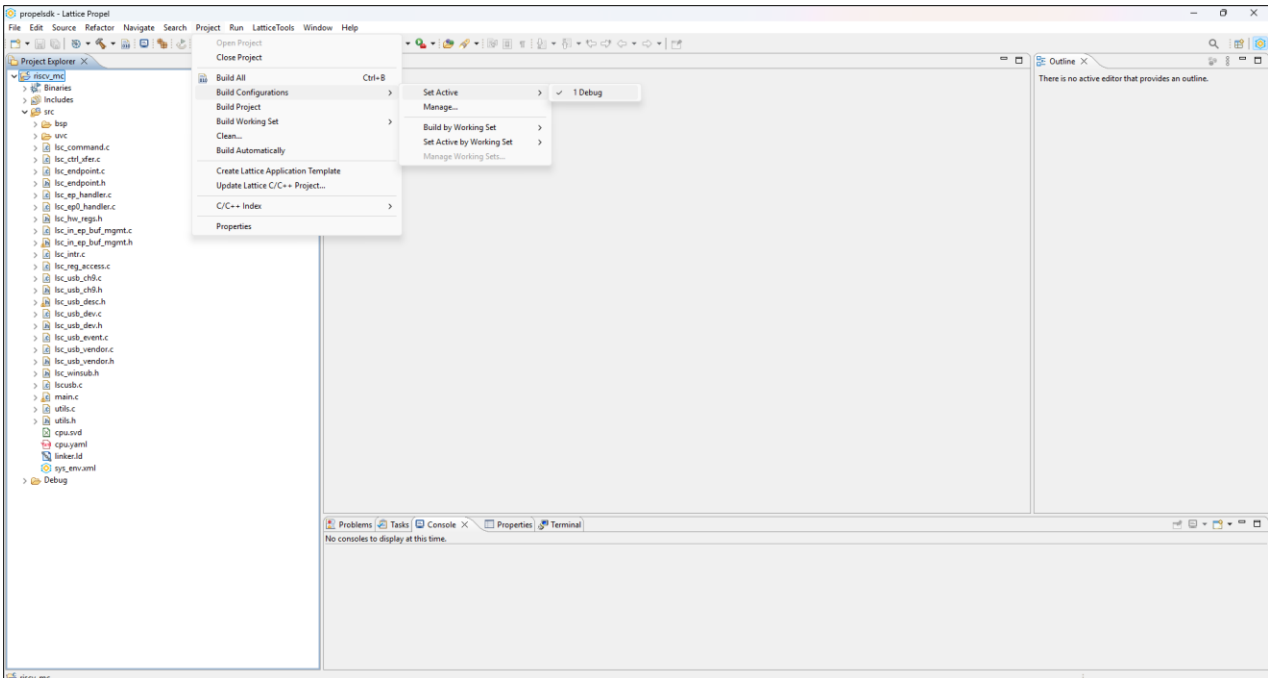

Figure 5.6. Set Propel Build Configuration Mode
8. Select **Project > Build Configurations > Set Active > 1 Debug** (Figure 5.6) to compile the Propel SDK project to generate the memory image for the RISC-V firmware.